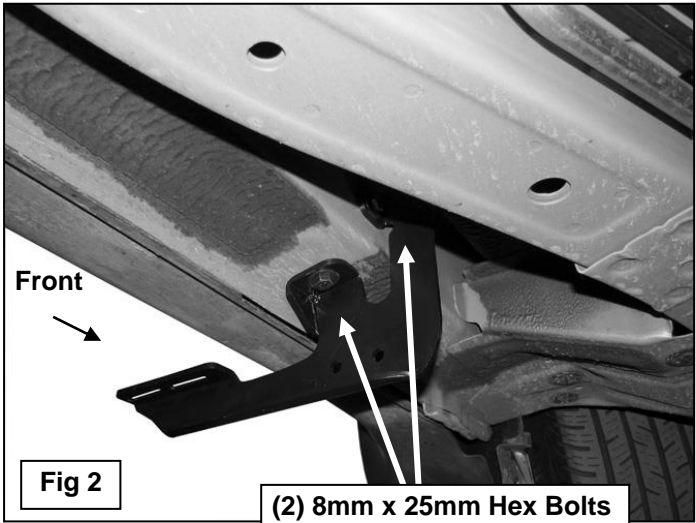

Fig 2
3. Select the driver side Front Mounting Bracket. Attach the Bracket to the two threaded holes using the provided (2) 8mm x 25mm Hex Bolts, (2) 8mm Lock Washers and (2) 8mm Flat Washers. Snug but do not tighten hardware at this time, **(Figure 2)**.